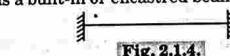

Fig. 2.1.4.
4. **Fixed Beam :** A beam whose both ends are fixed or built-in walls, is known as fixed beam. Such beam is shown in Fig. 2.1.4. A fixed beam is also known as a built-in or encastered beam.